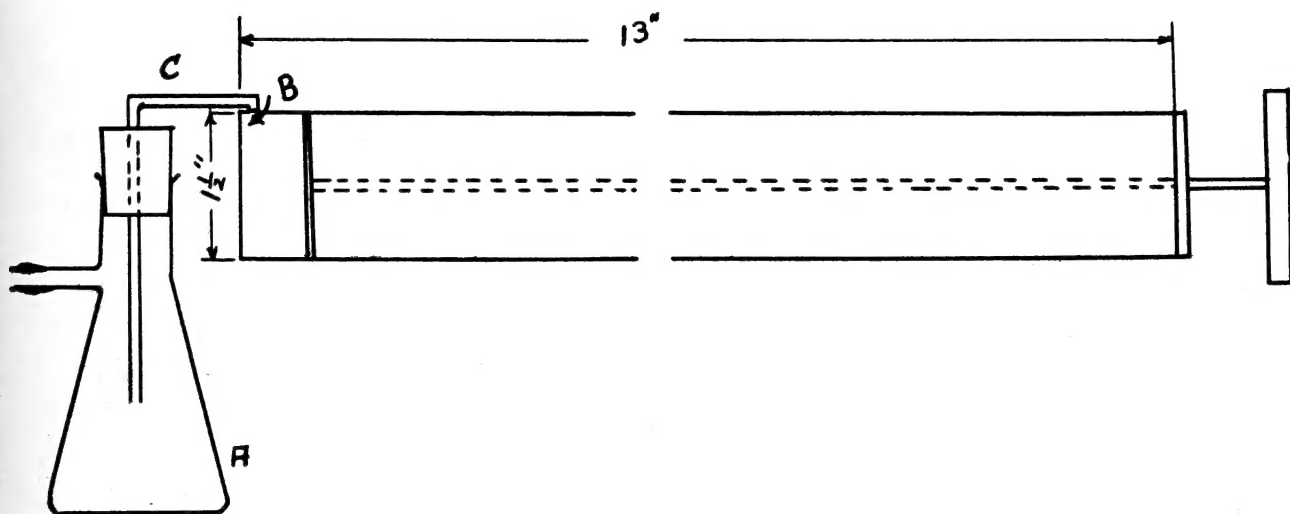

Figure 1.--A simple hand duster for the application of small quantities of dust.
In conducting insecticide tests with various dusts on potted pea plants, it was found desirable to have a duster which (1) would uniformly apply a very small quantity of material, (2) would have a dust container that was interchangeable and could be easily cleaned, and (3) that could be easily and cheaply constructed. The device herein described has proven very satisfactory; it was constructed in a few minutes' time from parts of an old hand fly-spray atomizer and a 50-cc. filter flask (fig. 1, A).
The nozzle and insecticide container were removed from the old spray atomizer, and a small brass tube (fig. 1, C) of one-eighth inch inside diameter was soldered to the air outlet of the pump chamber.
The one-way air valve (fig. 1, B) which is present in the majority of sprayers should be between the pump chamber and the air outlet. The brass tube is bent and extends through a cork and into the filter flask, as shown in the diagram. The cork is pressed firmly into the flask and serves to hold the latter in position.
The dimensions given in figure 1 are those of the pump chamber that chanced to be available.